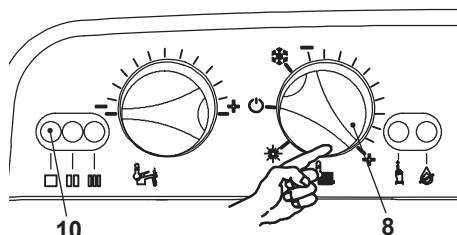

Fig. 7.9
- Turn the boiler ON positioning the control selectors 8 in the positions as shown in as in Fig. 7.9 and ensure that the timer selector switch and room thermostat, if fitted, are set to "heat demand".
- Watch the gauge and check to see if the ignition pressure registered corresponds to the values as given in the Technical Data. Turn off the boiler and reignite it by turning the function selector 8 to the OFF position and then back to that indicated in Fig. 7.9.